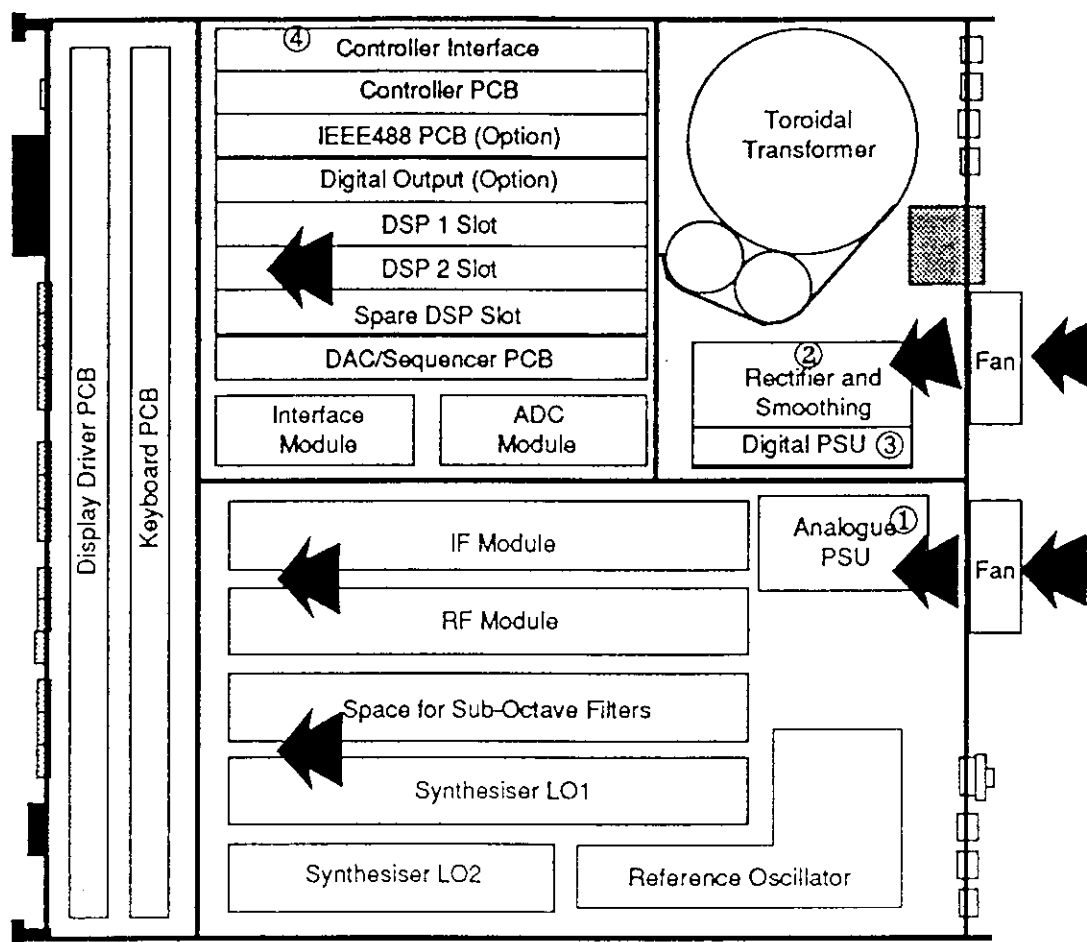

Figure 1 - Internal Layout and Air Flow Diagram
The receiver is fitted with two axial cooling fans on the rear panel of the unit. One is located in the RF/IF Synthesiser section, the other being located in the digital circuitry section of the receiver. A simplified layout diagram of the interior of the receiver is given in Figure 1 on the following page which shows the two fans and the direction of air flow in the receiver.
- (4) Remove the units top cover by releasing the eight screws and lifting the cover plate clear.
- (5) With reference to Figure 1 item annotated (1), release the plug in the top corner of the Analogue PSU to allow access to the fan wiring.
- (6) On the rear of the fan, release the four screws holding the fan and guards in place. Note that the inside fixing nuts of the fan are locked with thread locking compound and need to be held with a ring spanner to allow the screws to be removed.
- (7) Unsolder the two wires from the feed-through filters taking note of their position for reconnection, (red lead to No. 5, black lead to No. 6).
- (8) The fan, internal guard and wire can now be lifted clear.